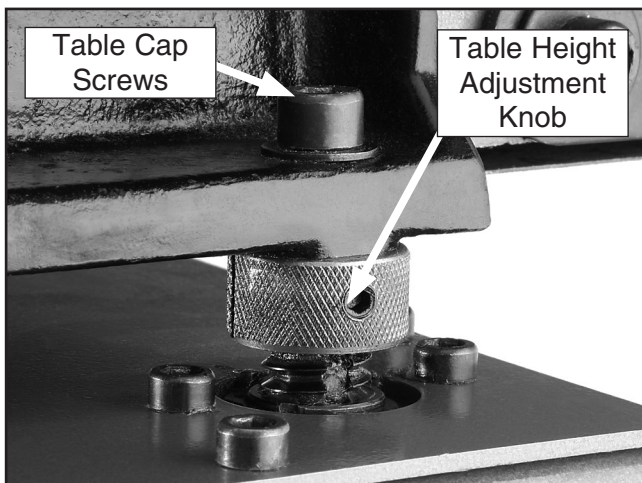

Figure 45. Table height adjustment knob.
7. Loosen the table cap screws and adjust the height of the table by rotating the adjustment knob shown in **Figure 45**.